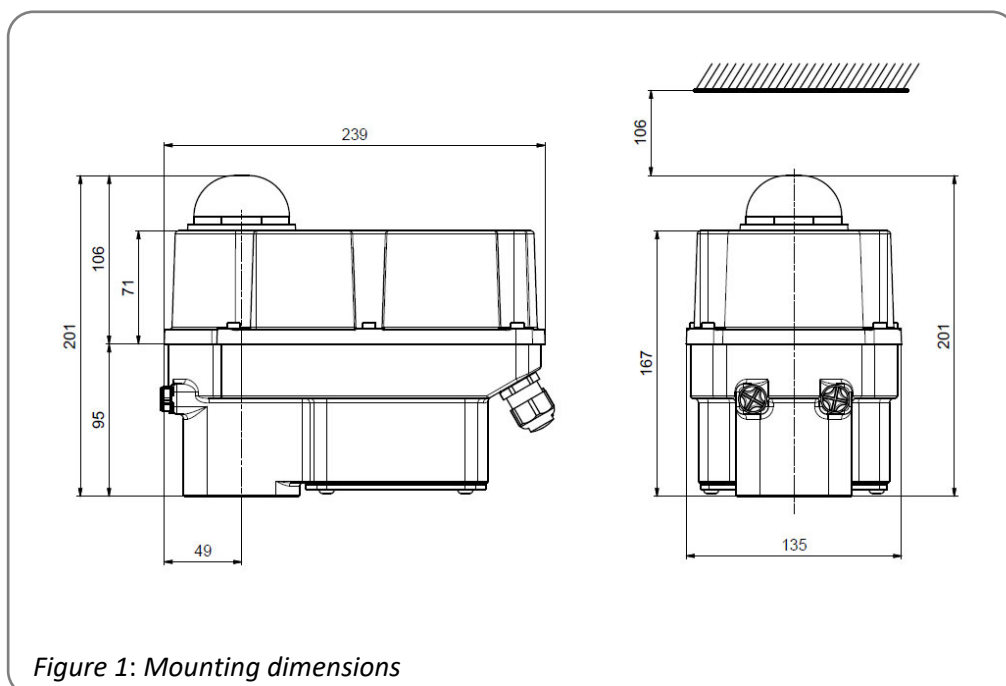
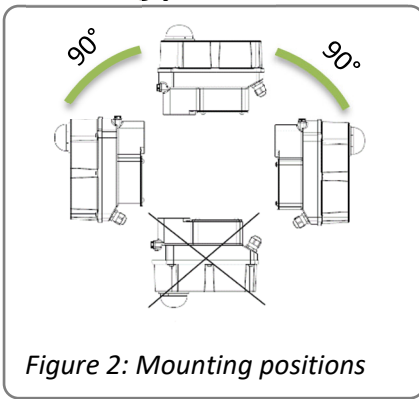

Figure 1: Mounting dimensions
Figure 2: Mounting positions
- The actuators must be installed with sufficient clearance to remove the cover (Figure 1). The mounting position is arbitrary with the exception of "cover down" (Figure 2).